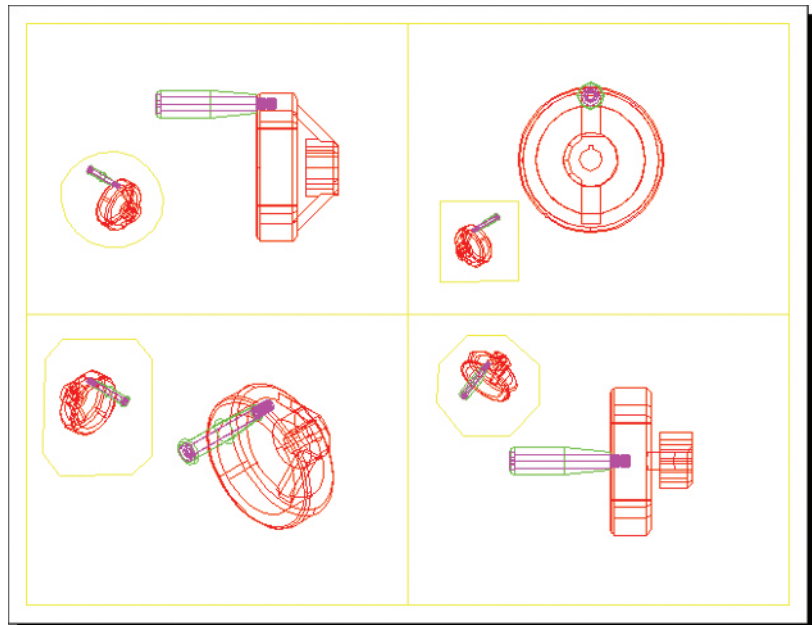

Fig. 19.11 Polygonal viewports – plot preview
Polygonal viewports (Fig. 19.11)
10. Repeat in each of the viewports with different shapes of polygonal viewport outlines (Fig. 19.11).